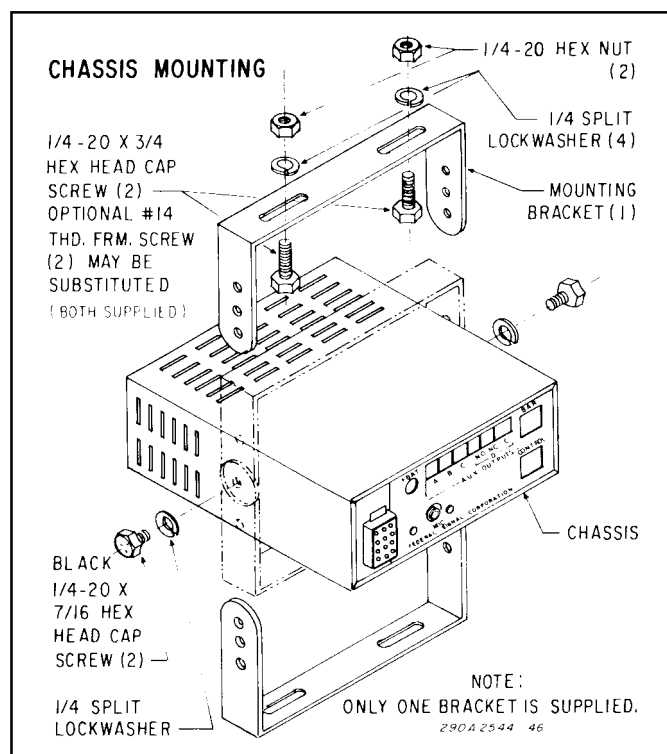

Figure 3-3. Mounting Bracket Installation.
C. Secure the mounting bracket to the mounting surface with (2 each) 1/4-20 x 3/4 hex head screws, 1/4 split lockwashers and 1/4-20 hex nuts as shown in figure 3-3.